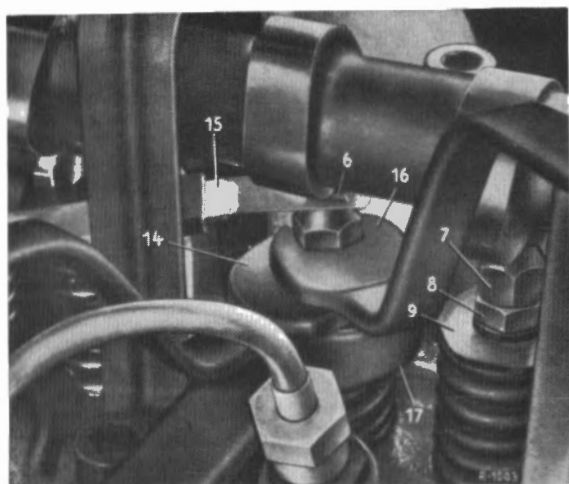

Fig. 00-3/5
Slacken the hexagon nut (8) on the valve by means of the special wrench (14) holding the cap nut (7) steady with the special wrench (16). Then adjust the prescribed tappet clearance by turning the cap nut (7) using the special wrench (16) (see Job No. 00-0). If the valve turns when the cap nut is being turned, hold the valve steady at the hexagon of the valve spring retainer (9) by means of the special wrench (17). After adjusting the cap nut (7) lock it by tightening the hexagon nut (8) and once again check the tappet clearance (see Figs. 00-3/4 and 5).